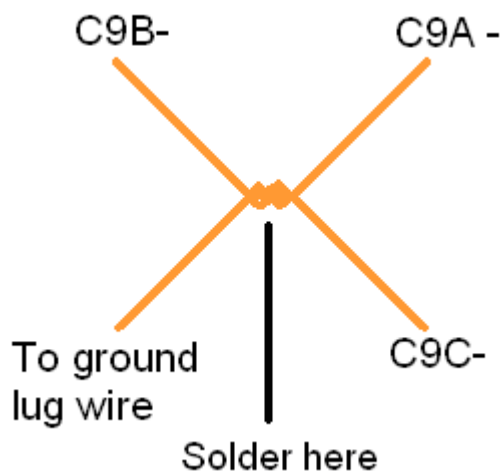

Figure 3-Ground Harness Configuration
- c. Twist and shape the wires as shown in Figure 3.